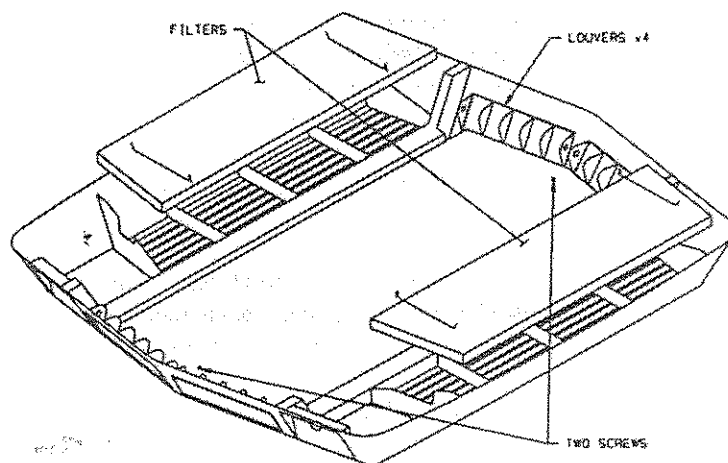

FIGURE 3
2. Remove the two screws that secure the ceiling assembly shroud to the ceiling assembly. See Figure 3.
4. Take filters out and either clean or exchange with other filters (See Figure 3).